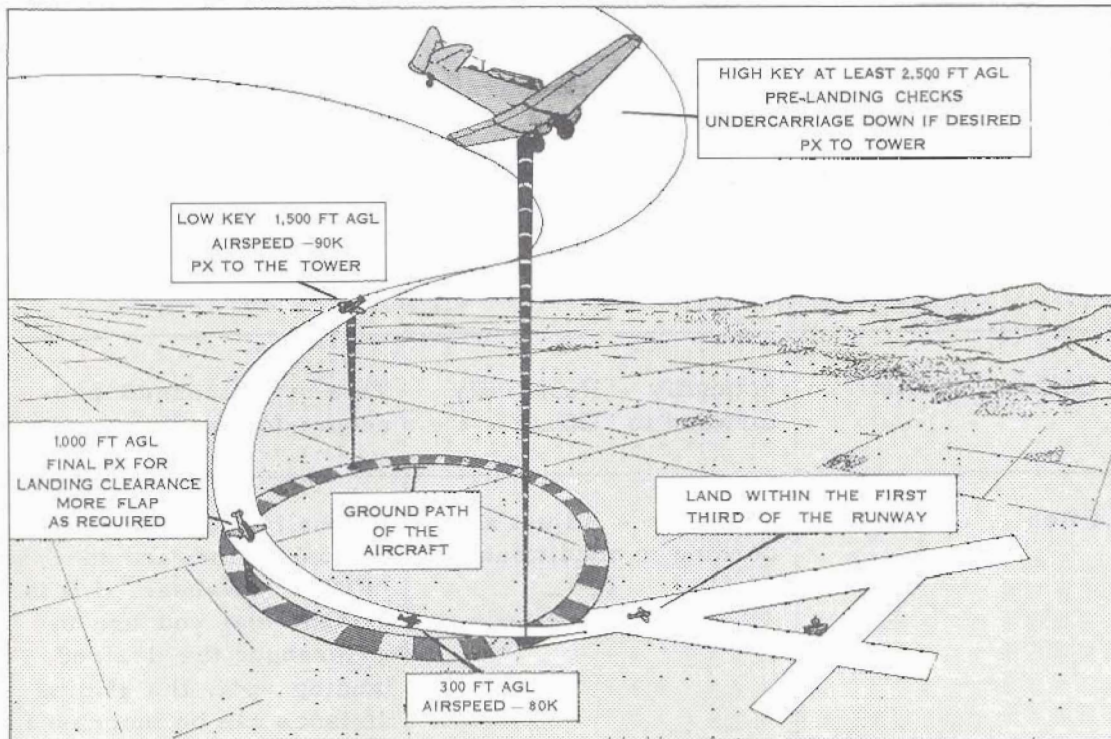

Figure 1: A Forced Landing
(1) If you ever have to do a forced landing in a Harvard, you may be at a height from which you can plan an approach to a nearby aerodrome. While you are running through the FMS and Forced Landing Checks, you should be heading towards the aerodrome in a glide at 90K, regulating your flight path so that the aircraft passes over the button, into wind, at a height of approximately 2,500 feet AGL. This position, as shown in Figure 1 opposite, is known as "High Key". You should be able to judge the rate of descent without difficulty if you remember that a Harvard loses approximately 2,000 feet in a 360 degree, Rate 1 gliding turn with the undercarriage "DOWN". The undercarriage should not be lowered until you have reached a "High Key", but to assist you to lose altitude, it may be lowered sooner.
(3) When 180 degrees of turn have been completed, the aircraft should be approximately 1,500 feet AGL in the down-wind position opposite the point of touch-down. As shown in Figure 1, this is the "LOW KEY" position. Here, a second transmission should be made to inform the tower that you are at "Low Key". Any necessary adjustments for wind should be made immediately.
(4) After 270 degrees of turn, with the altimeter reading 1,000 feet AGL, you should ask the tower for landing clearance, and make a decision about the use of flap. The final approach speed should be 80K and you should be aiming to land within the first third of the runway. If flap is to be used to steepen the approach angle, remember that, if you have engine failure, the hydraulic pump will not be working and you will have to pump the flaps down by hand.
(1) The following hints are listed to help you carry out a successful forced landing.
- (e) The approximate altitudes given in Figure 1 should help you to assess the situation at each stage of the forced landing. Use them to make early corrections.